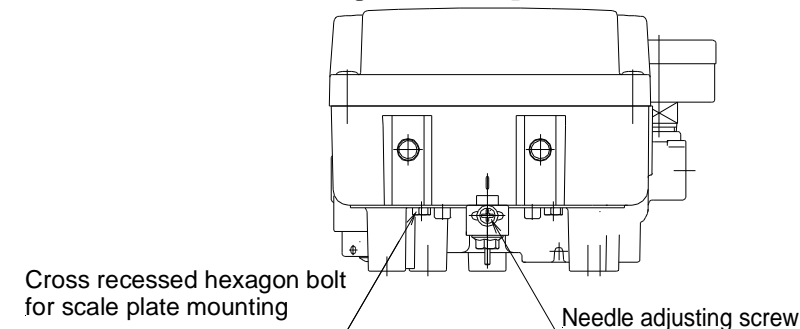

Fig.22 Positioning of needle
- (2) Stop positioner at intermediate opening of actuator (where input signal of 50% finishes to enter to the positioner) and adjust the position of needle to meet with 50+% of scale plate. (Refer to Fig.22) If the needle can't be met with 50+% even with adjustment, stop pressure supply once, reposition fork lever type fitting and cam, and readjust zero span.